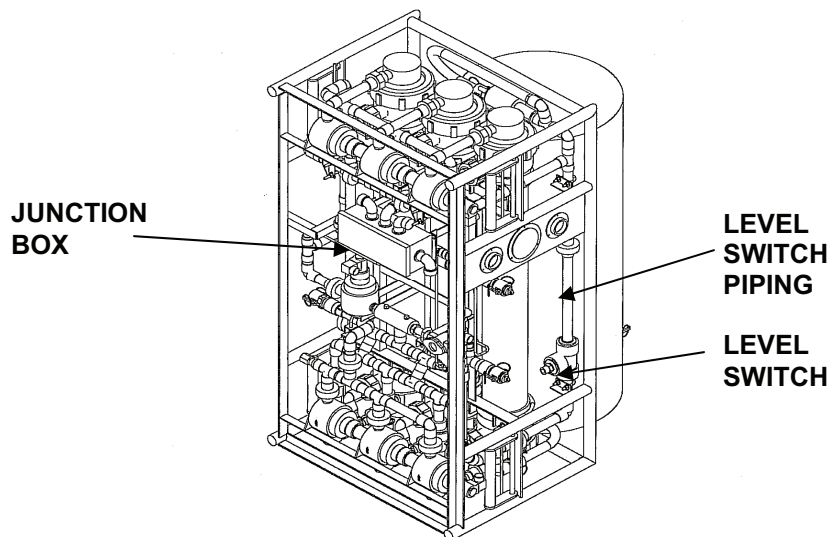

Figure 5. Level Switch Location.
1. Level switch is located in the level switch piping. See Figure 5.